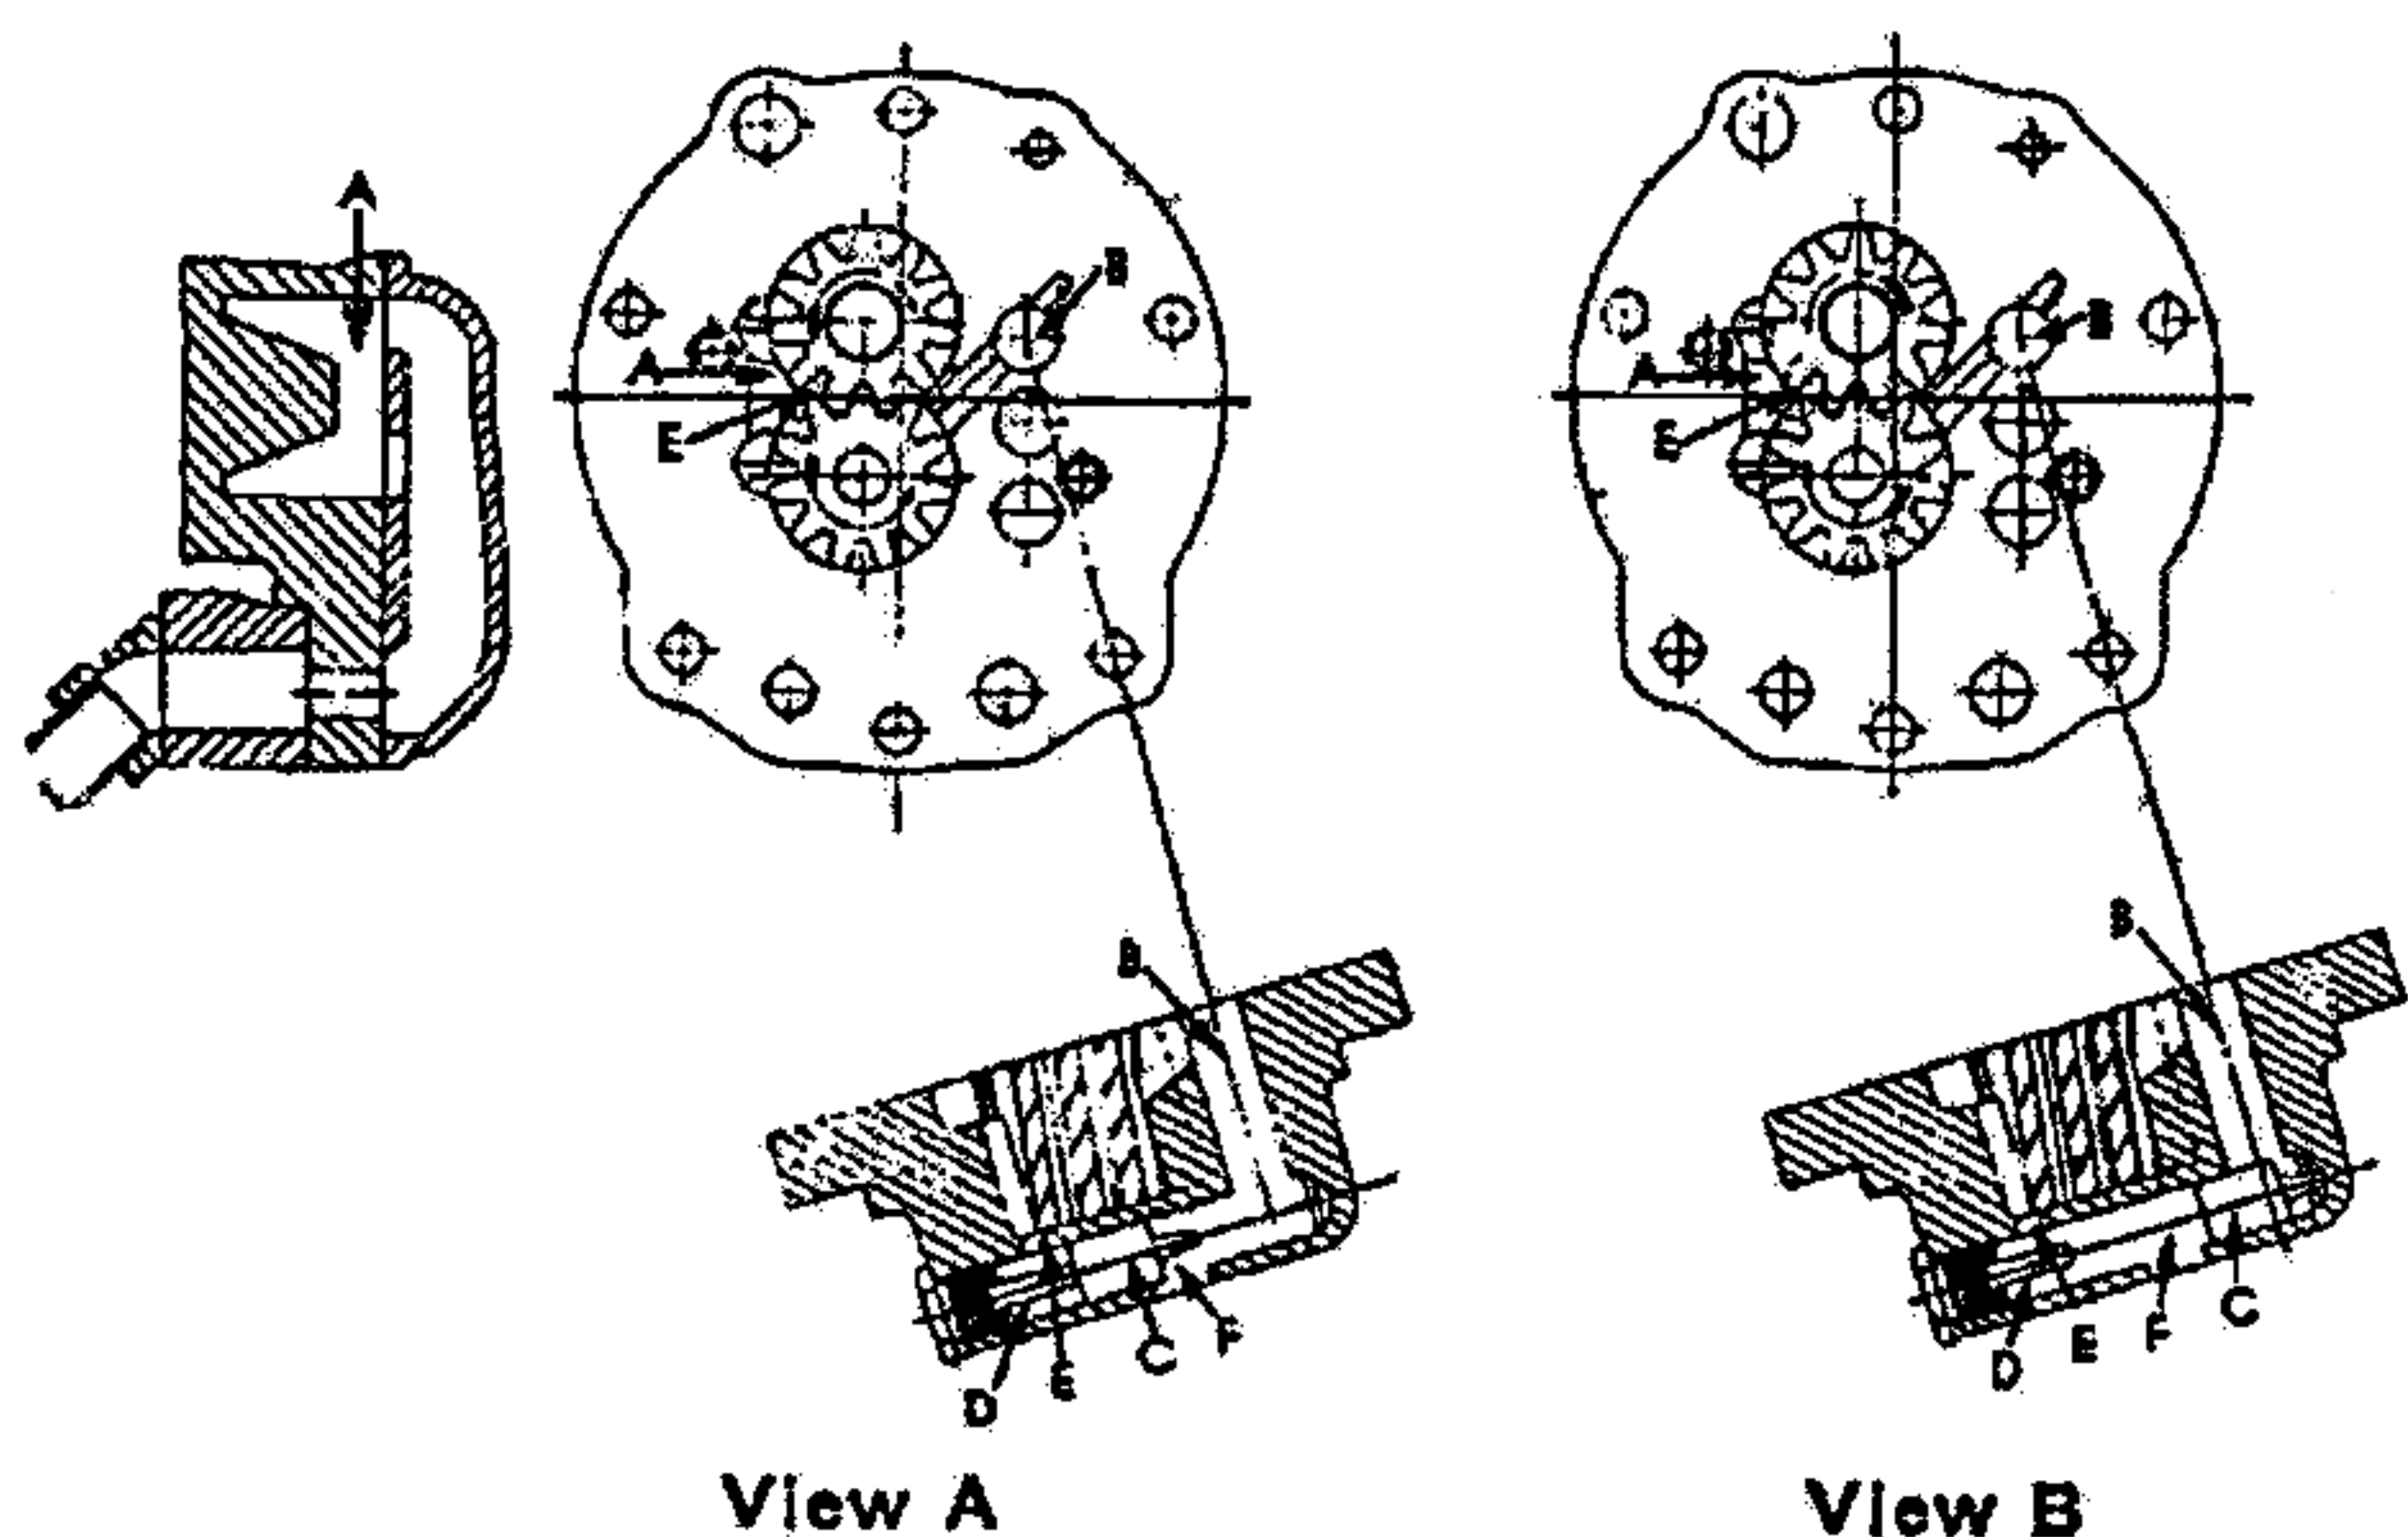

Fig. 7. Single Drive Oil Pump Operation
With gears turning, corresponding to a forward motion of car, oil is drawn into pump through passage (A) see Fig. 7, View A, and forced out through passage (B). Oil pressure on piston type valve (C) forces valve against stop (D), blocking off passage (E) and uncovering outlet (F).
With pump gears turning, corresponding to a reverse motion of car, oil is drawn into pump through passage (A) see Fig. 7, View B, and forced out through passage (E). Oil pressure is directed to opposite end of valve (C), forcing it to end of cylinder opposite to where it was for a forward motion. Piston thus blocks off passage (B) and uncovers outlet (F) which is same as for forward motion.